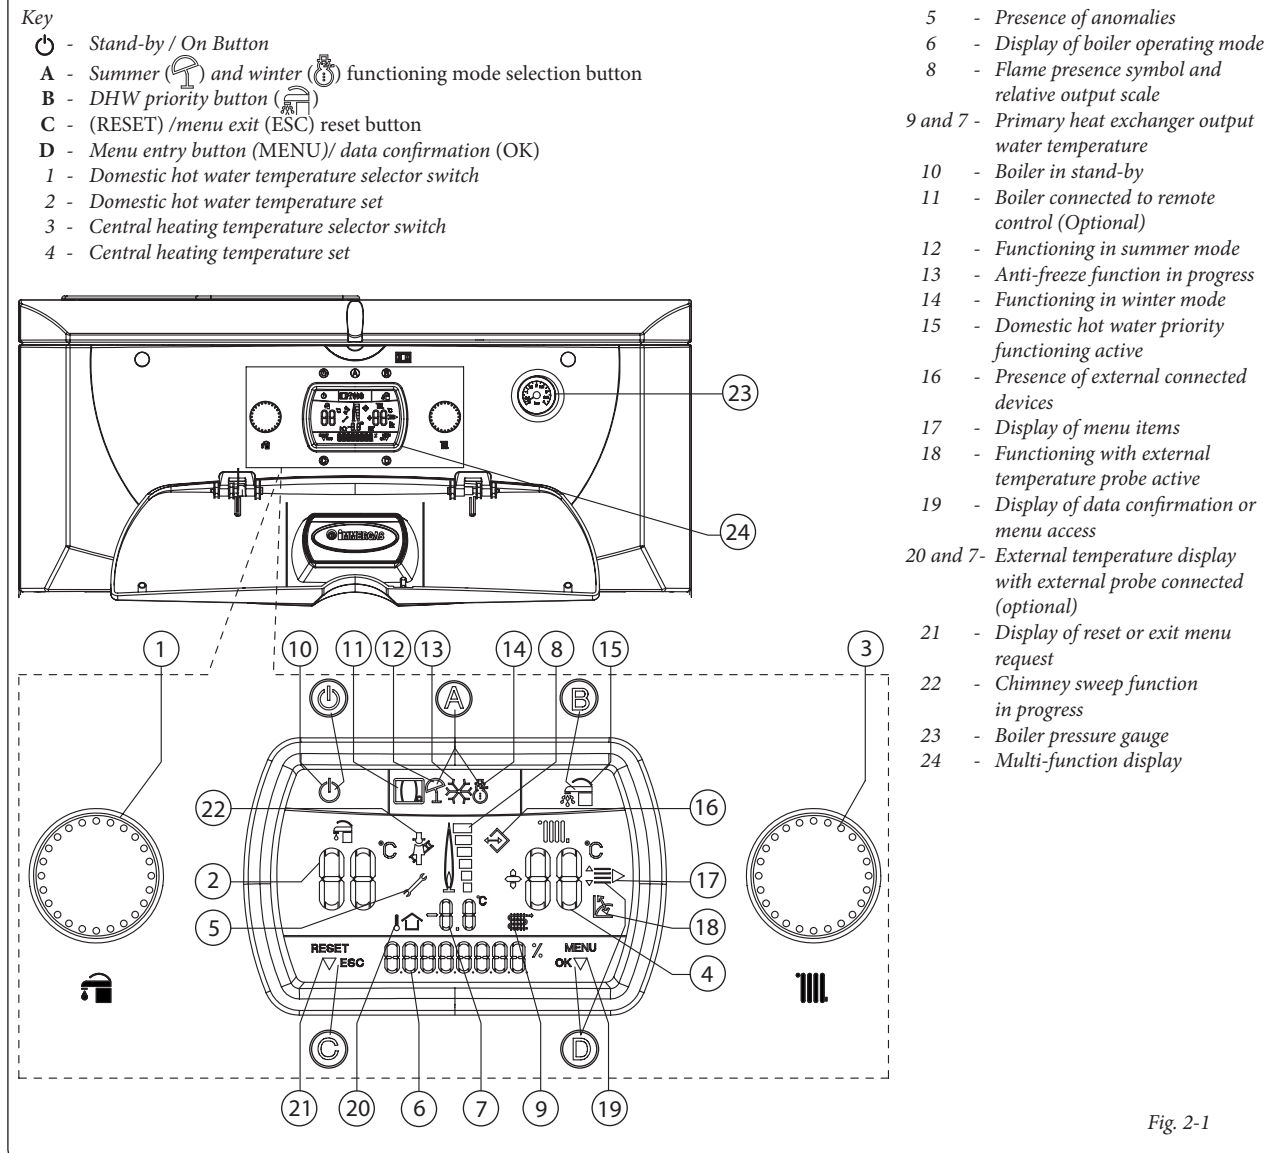

Fig. 2-1
Below is a list of boiler operating modes that appear on the status display (item 6 in Fig. 2-1) together with a brief description.
| SET | During rotation of the domestic hot water temperature selector switch (item 1 Fig. 2-1) the adjustment status of the domestic hot water temperature is displayed. |
| SET | During rotation of the central heating selector switch (item 3 Fig. 2-1) the adjustment status of the boiler flow temperature for central heating is displayed. |
Refer to Fig. 2-1.
- **Domestic hot water priority function** By pressing button 'B' the DHW priority function is deactivated, which is marked by the switch-off of the symbol (item 15 in Fig. 2-1) on the display. The disabled function keeps the water contained in the storage tank at a temperature of 20°C for 1 hour, giving the priority to central heating.
Note: The boiler may start-up automatically if the anti-freeze mode is activated, (item 13 Fig. 2-1). Also, the boiler can operate for a brief period of time after a demand for domestic hot water in order to return the domestic hot water store back to temperature.
The Alpha InTec boiler signals any faults by the flashing symbol (item 5 in Fig. 2-1) along with 'ERRxx' on the status display (item 6). Where 'xx' corresponds to the error code described in the following table.
Insufficient system pressure. Low water pressure inside the central heating system is detected and prevents the boiler operating. Check the boiler pressure gauge (item 1, Fig. 2-1) is between 1 and 1.2 bar. Restore to the correct pressure if necessary and check for leaks.